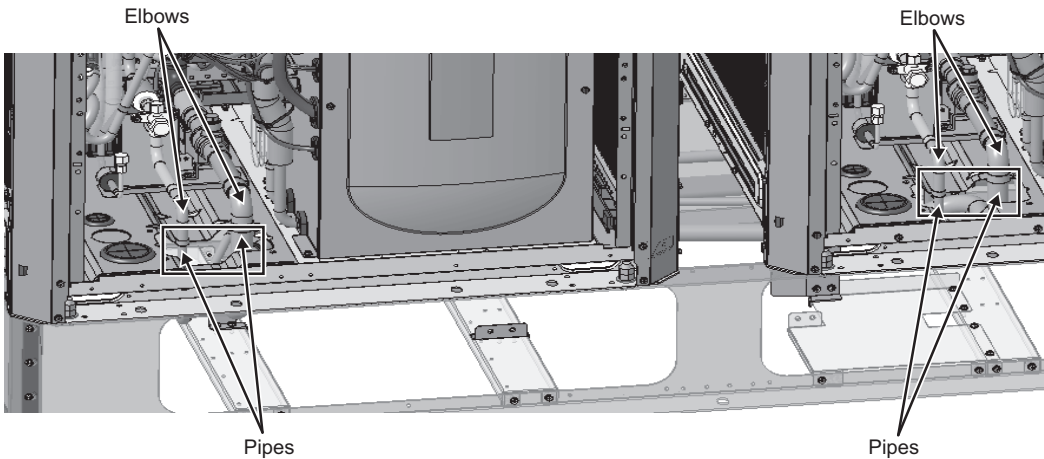

Fig. 9
(9) Braze the joints between the pipes and elbows installed in steps (5) to (8). (Four areas for brazing: Fig. 9)